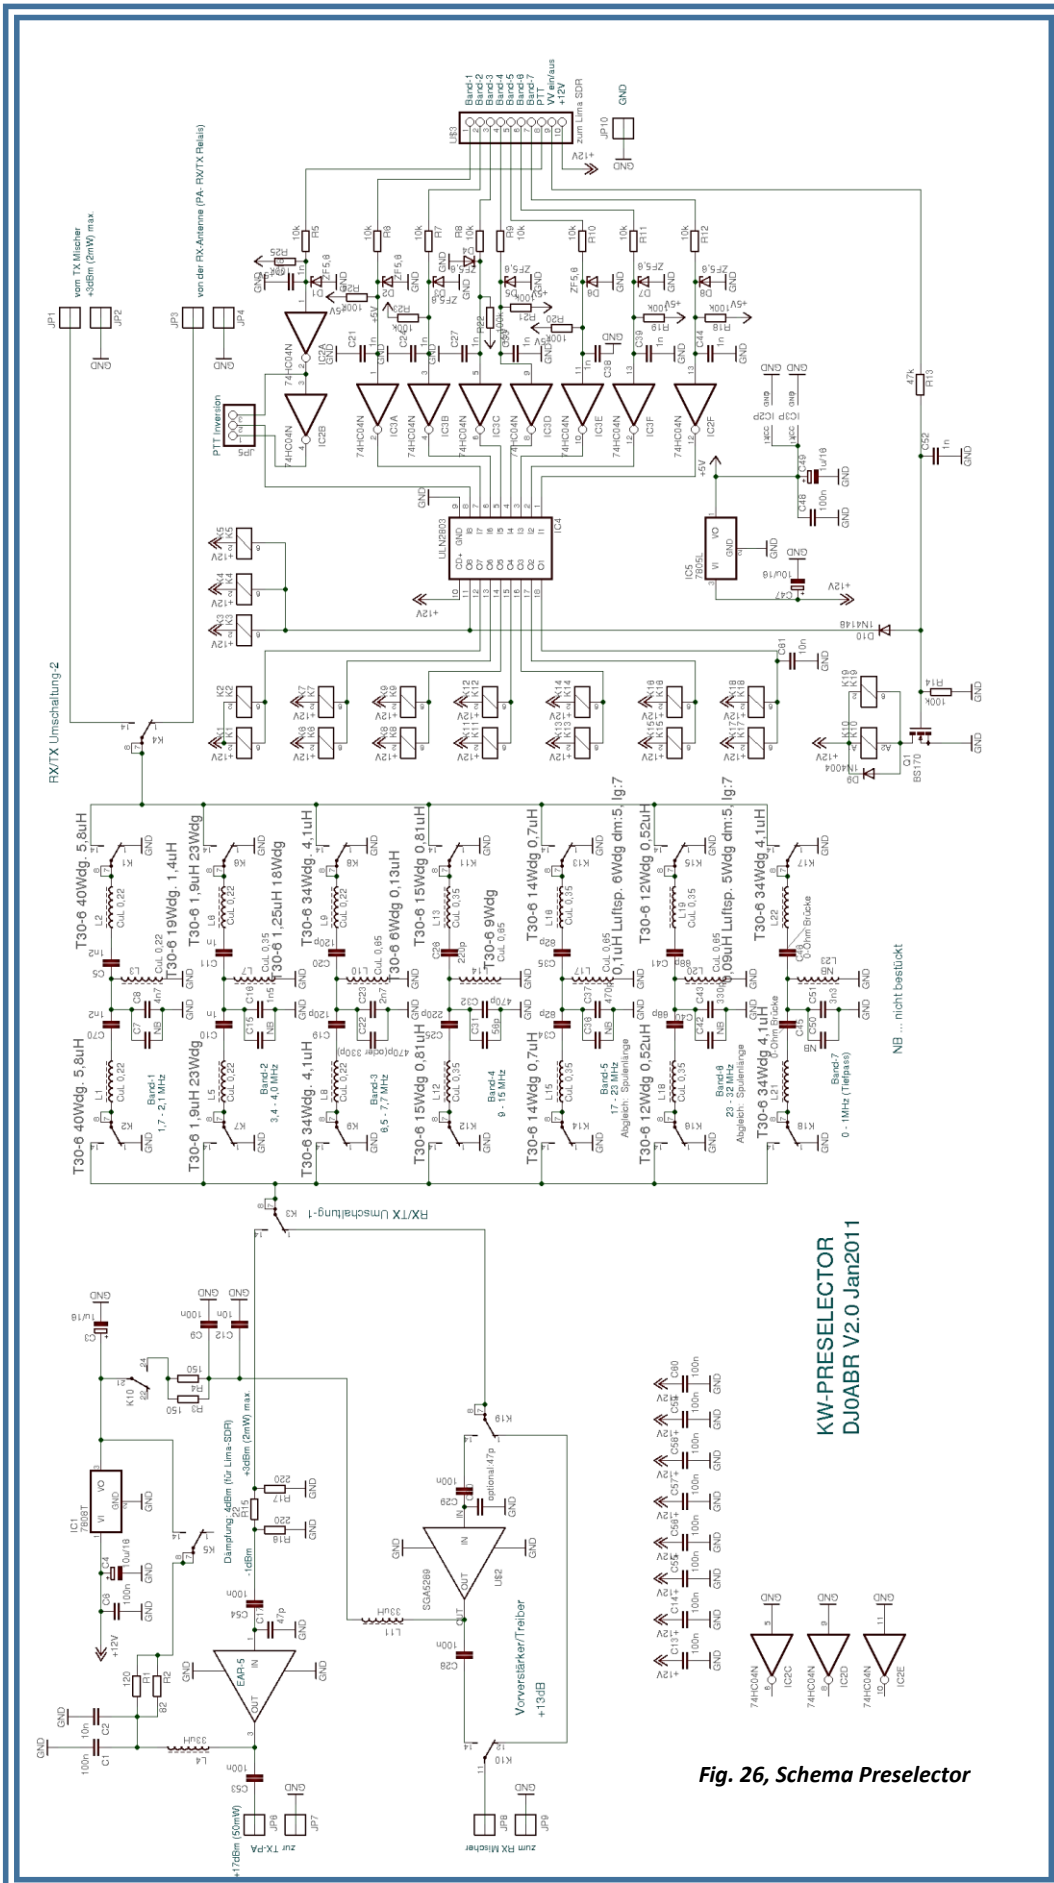

Fig. 26, Schema Preselector
5.11. Schema van de volledige Preselector, fig.26.